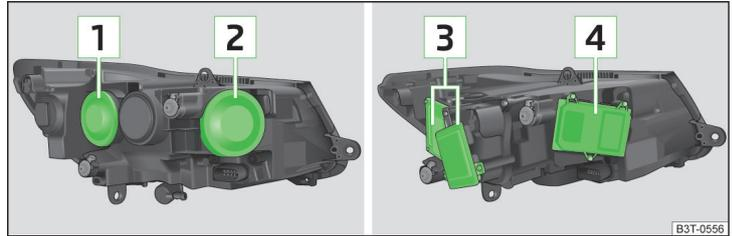

Fig. 202 Bulb arrangement: Headlight with halogen bulb/with Xenon bulb
- > Remove the protective cap **1** » Fig. 202 on page 224.
- › Remove the protective cap **2** » Fig. 202 on page 224.